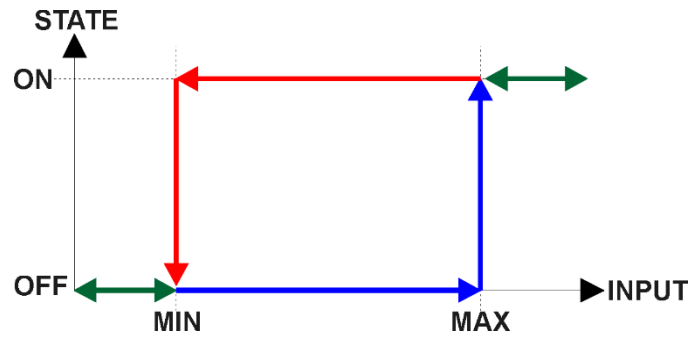

Figure 5 – Analog Input Read as Digital
There is another type of 'digital' input that can be selected when 6112h is set to 20 = Analog On/Off. However, in this case, the input is still configured as an analog input, and therefore the objects from the Analog Input (AI) block are applied instead of those discussed above. Here, objects 2020h, 2030h and 6030h are ignored, and 6020h is written as per the logic shown in Figure 5. In this case, the MIN parameter is set by object 7120h **AI Scaling 1 FV**, and the MAX is set by 7122h **AI Scaling 2 FV**.